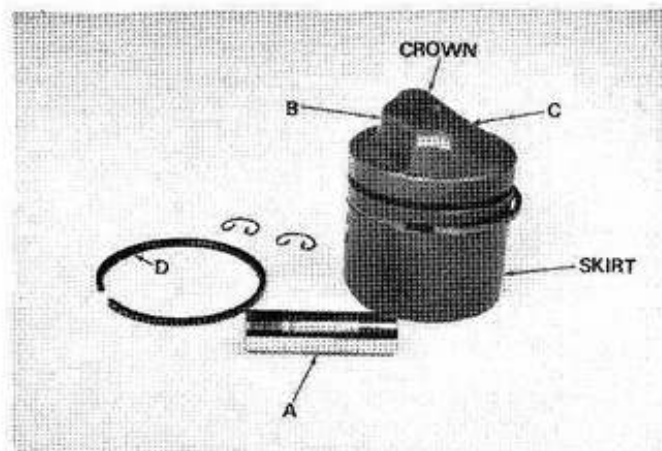

Figure 72. Piston Inspection.
- b. The piston pin (A) should be inspected for wear. (See Figure 72.) If a concave surface on the piston pin is noted (when pulling your fingernail down the length of the pin), replacement is necessary. A piston pin that shows this kind of wear has either a faulty air cleaner or air cleaner maintenance has been poor.
- d. When installing the piston pin, be certain the hole in the pin faces side (B) of the piston crown. Side (C) is the exhaust side and side (B) the intake side. The